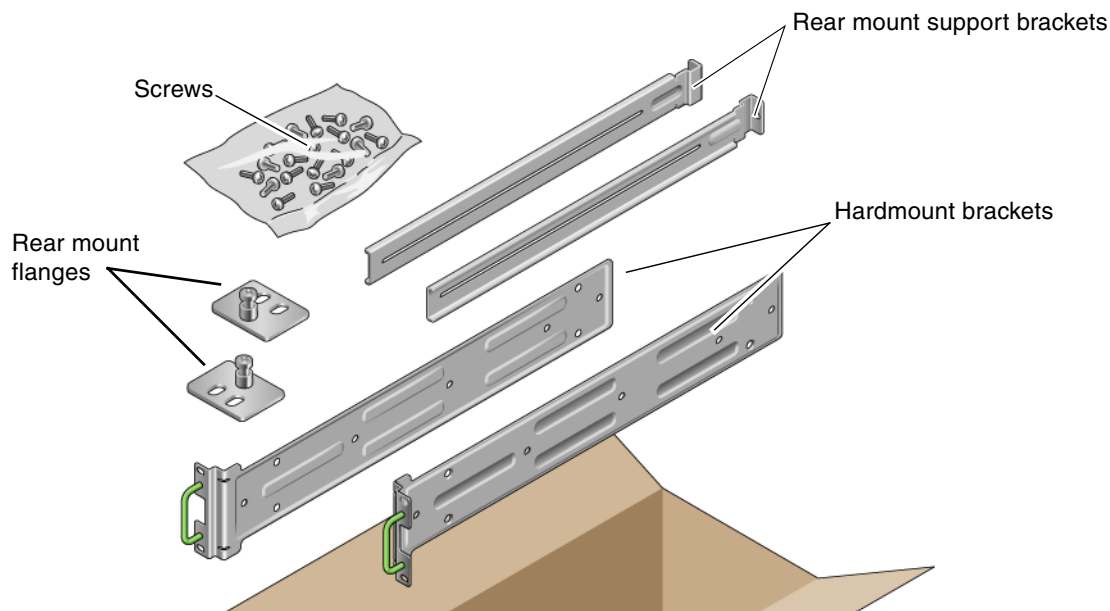

FIGURE 3-1 Contents of the Hardmount 19-Inch 4-Post Kit
1. Get the hardmount brackets from the rack kit (FIGURE 3-1).
4. Get the two rear mount support brackets from the rack kit (FIGURE 3-1).
8. Get the two rear mount flanges from the rack kit (FIGURE 3-1).
You also need the hardmount brackets from the standard rackmount kit that came with the server (FIGURE 3-1).
1. **Get the hardmount brackets and M5 × 8 mm flathead Phillips screws from the standard rack kit (FIGURE 3-1).**